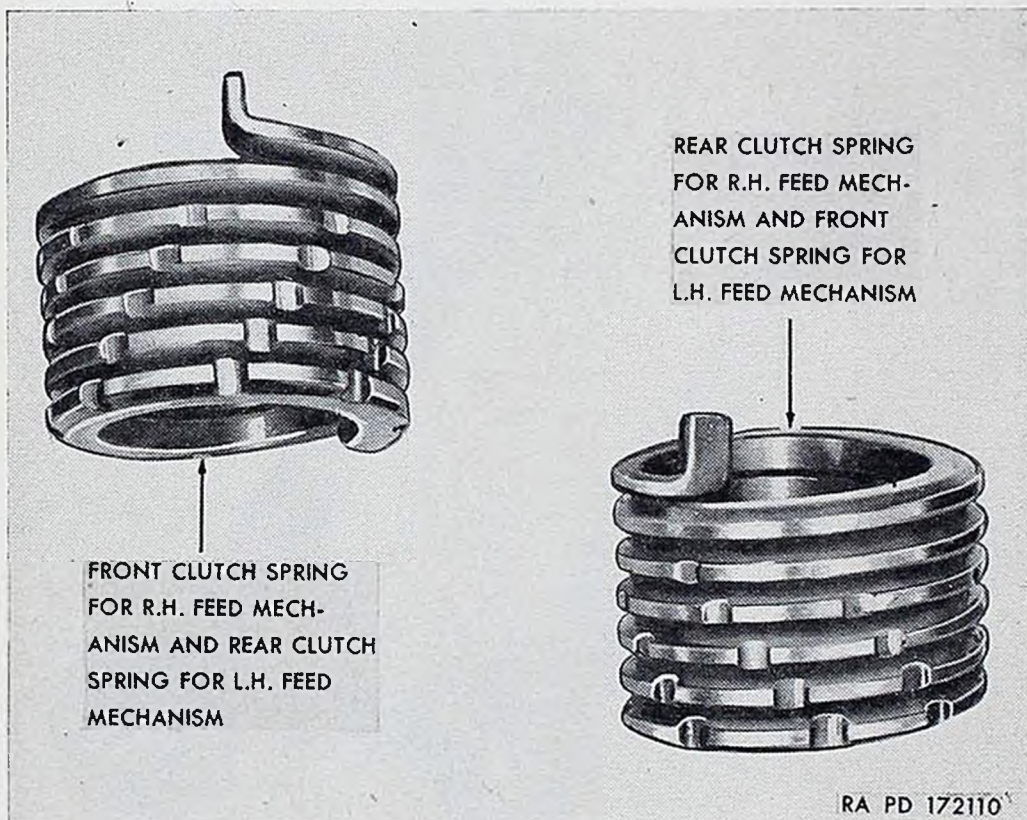

Figure 161. Clutch springs for left-hand and right-hand feed mechanisms.
- (3) For a right-hand feed mechanism, the front clutch spring is left-hand winding, while the rear clutch spring is right-hand winding, as shown in figure 161. For a left-hand feed mech-
anism, the front clutch spring is right-hand winding, while the rear clutch spring is left-hand winding, as shown in figure 161. The front clutch spring of a right-hand feed mechanism is interchangeable with the rear clutch spring of a left-hand feed mechanism; the rear clutch spring of a right-hand feed mechanism is interchangeable with the front clutch spring of a left-hand feed mechanism.